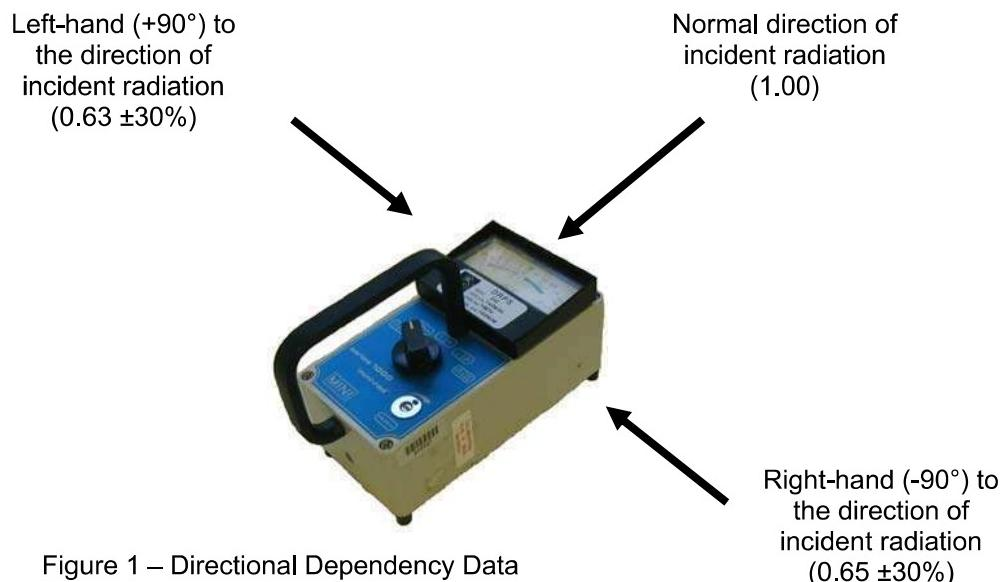

Figure 1 – Directional Dependency Data
- f. **Directional Dependency at 60 keV (241Am or 65 keV ISO X-ray Quality).** Expose the instrument to 241Am or 65 keV ISO X-ray Quality radiation field at an air kerma rate of 25µGy.h-1 / or 100 µSv.h-1 the expected polar responses are shown in Figure 1.
- f. **Directional Dependency at 60 keV ( $^{241}\text{Am}$  or 65 keV ISO X-ray Quality)**. Expose the instrument to  $^{241}\text{Am}$  or 65 keV ISO X-ray Quality radiation field at a dose rate of  $25\mu\text{Sv.h}^{-1}$  / or  $100 \mu\text{Sv.h}^{-1}$  the expected polar responses are shown in Figure 1.